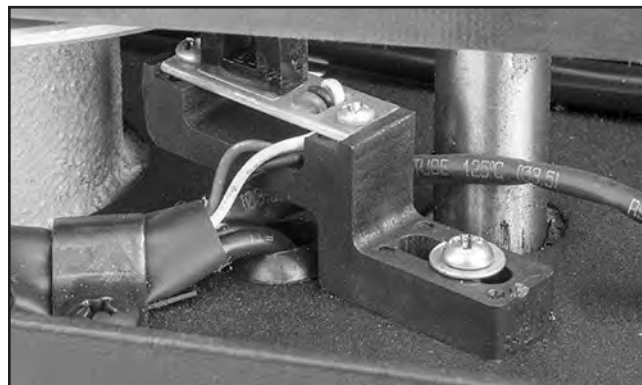

Figure 52. Cords fed into headstock.
3. Open belt cover and identify which cord is connected to worklight by lightly tugging cords fed into headstock (see **Figure 52**).